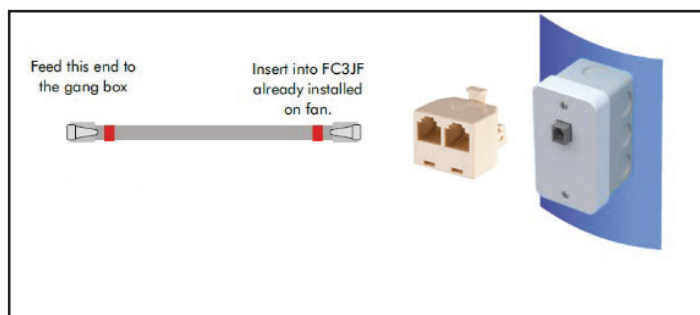
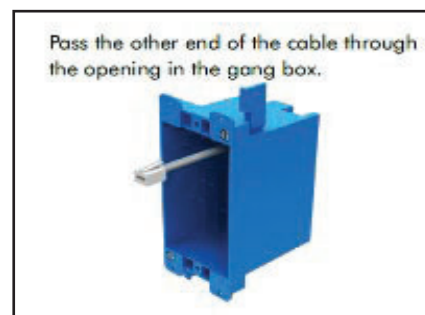

FIGURE 5 - PLUG CABLE TO FAN CONTROL MODULE
FIGURE 6 - EXTEND CABLE
3. Route the 50 foot plug&play cable between the plastic box and fan assembly. Refer to DIAGRAM 1 for cable connections. Plug the cable into the fan assembly fan control module (FC3JF) (Refer to FIGURE 5). Extend the cable out of the plastic retrofit box (refer to FIGURE 6).